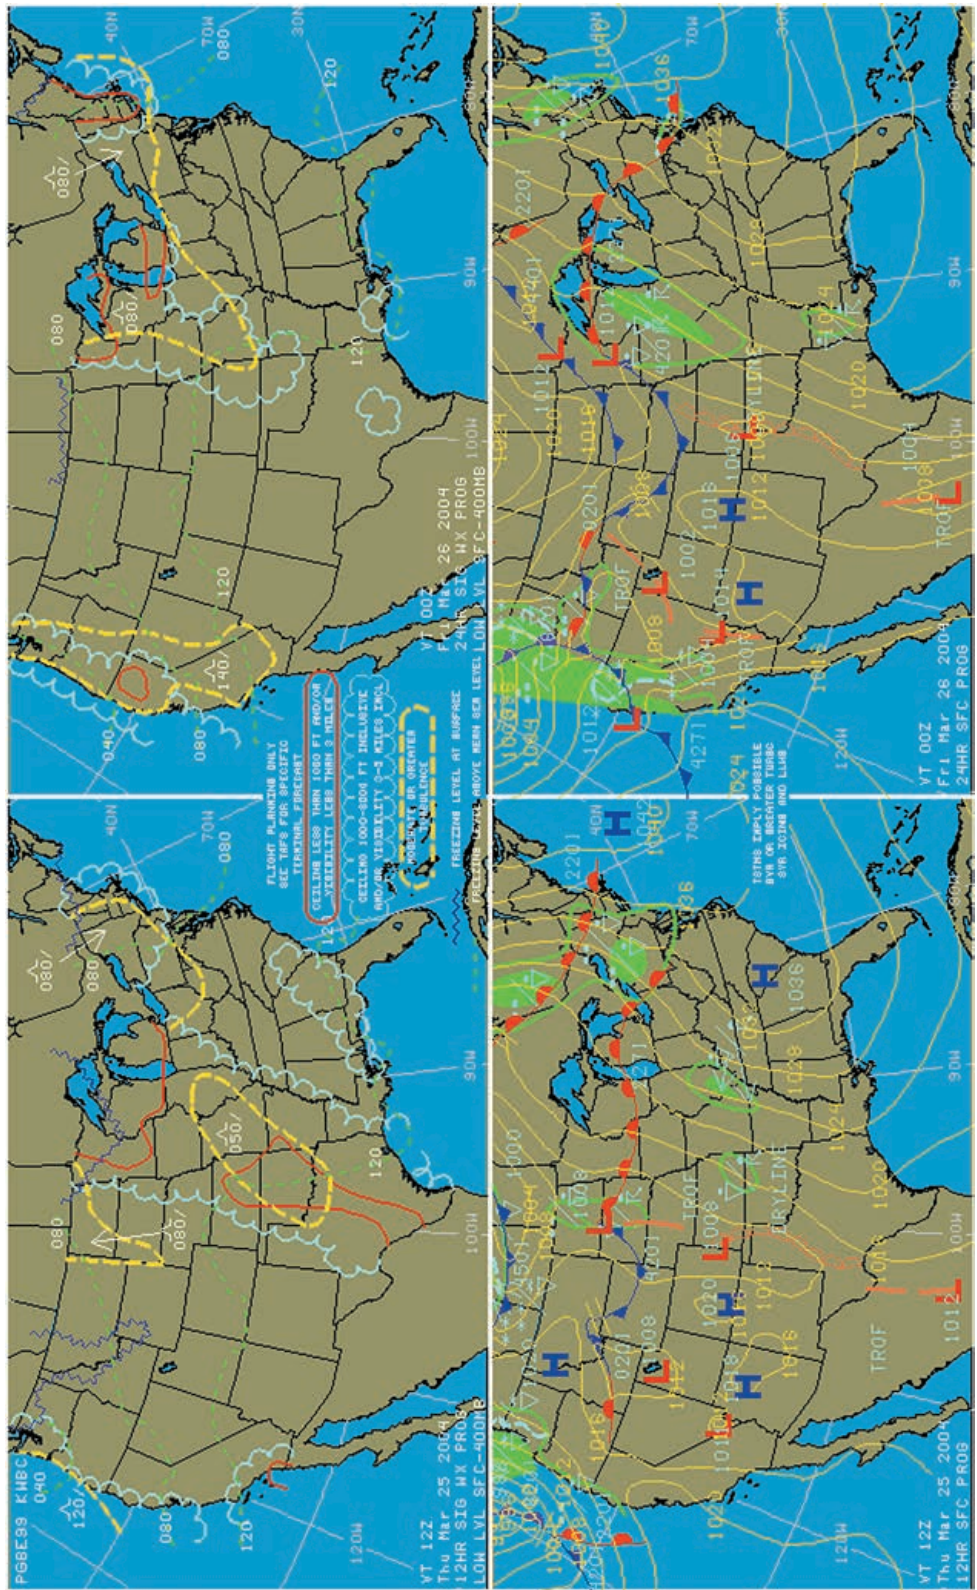

Figure 36-11 A typical low-level significant weather prognostic chart.
Prognostic charts are *forecasts*, rather than observations, and are the only charts that can give you a good overall view of the weather that is expected to occur. The low-level significant weather prog is a four-panel chart that shows the general conditions that are forecast to occur from the surface to 24,000 feet MSL (the 400 millibar (hPa) pressure level) at the valid time (VT) of the chart, the two left hand panels for 12 hours from the issuance time, and the two right hand panels for 24 hours from the issuance time. Prognostic charts are usually issued four times daily. See example in figure 36-11, page 736.
The low-level significant weather prognostic chart, as shown in figure 36-11, can be used to determine which areas to avoid, those with non-VFR weather, turbulence, and the possibility of icing above the freezing level.